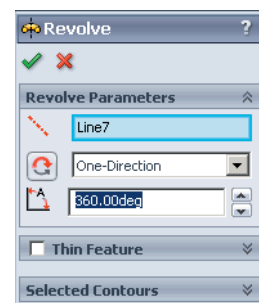
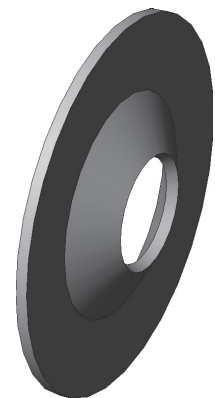

Fig. 9
Fig. 10
Step 3. Click OK  in the Revolve Property Manager, **Fig. 9** and **Fig. 10**.
Step 4. Click Zoom to Fit  (F) on the View toolbar.